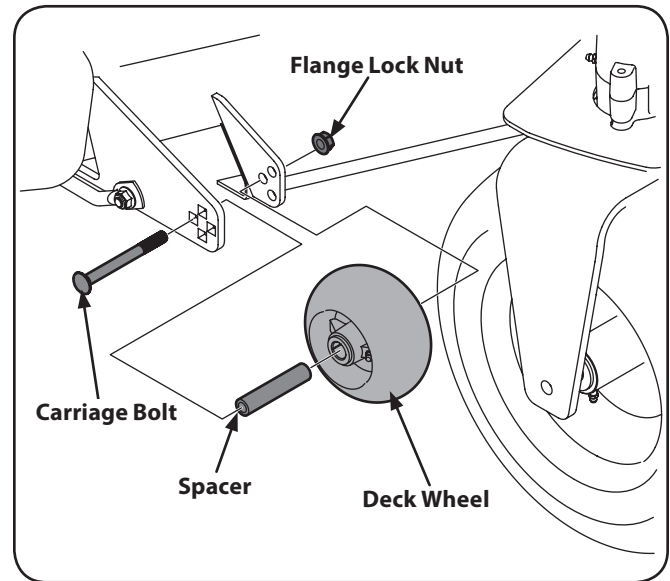

Figure 6-3
2. Remove the flange lock nut and carriage bolt securing the front deck wheel and spacer to the deck. Remove the wheel and carriage bolt. Refer to Figure 6-3.